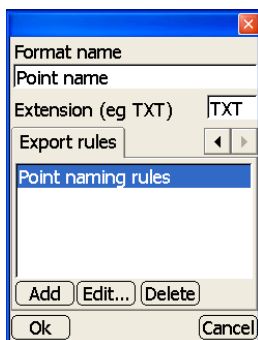

Figure 3-9. Export Rules
10. On the *format* dialog box, press **Ok** (Figure 3-9).